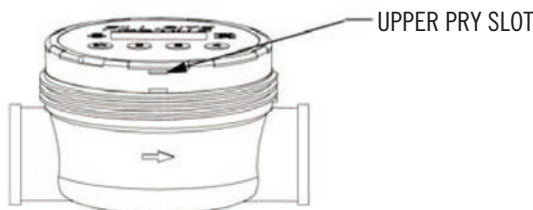

FIGURE 4
1. Unscrew meter cap (item 1). Use a strap type oil filter wrench or large 5" jaw pipe wrench if needed.
2. Insert a flat-head screw driver into the top slot (see Figure 4) and gently pry up electronics module.